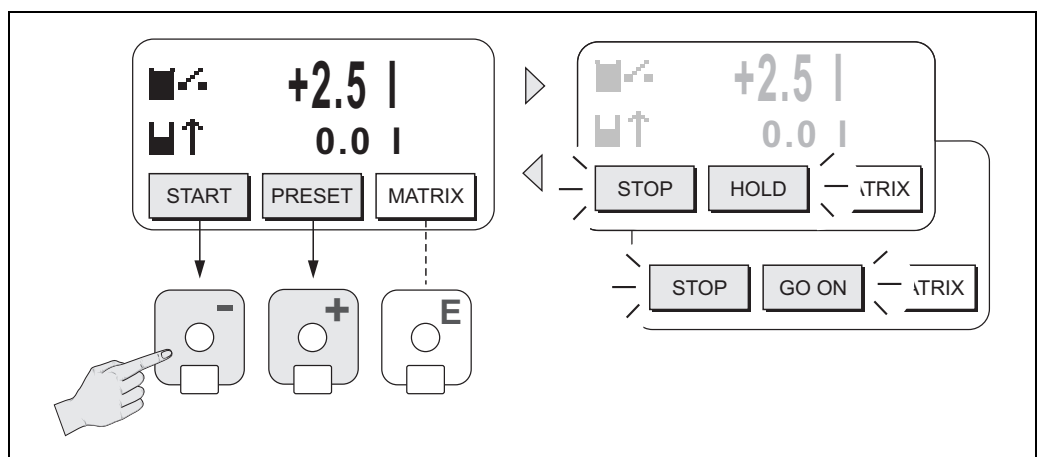

Fig. 46: Controlling batching processes using the local display (softkeys)
The following "softkeys" then appear on the bottom line of the local display → Fig. 46:
3. After exiting the PRESET menu, you can now start the batching process by pressing "START (□)". New softkeys (STOP/HOLD or GO ON) now appear on the display. You can use these to interrupt, continue or stop the batching process at any time. → Fig. 46